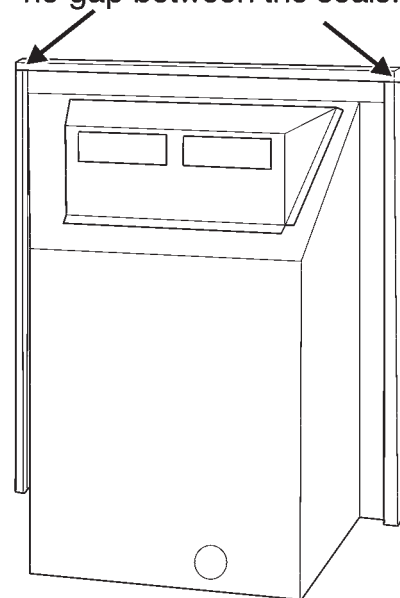

Figure 15. Fitting the foam seal
9. There is a length of self adhesive foam seal supplied with the fire. This will need to be fitted to the outer rear edges of the side and top flanges of the convection box. Cut a 485mm length of foam seal. Be careful not to stretch the seal when measuring. Remove the protective backing from the foam seal and fit this to the rear of the top flange (See figure 15). Cut two 580mm lengths. Fit these to the rear outer edges of the side flanges. Ensure that there is no gap between the foam seals where they meet at the top flange (See figure 15).